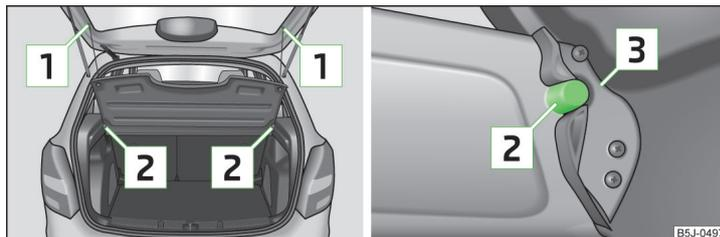

Fig. 64 Removing the boot cover
- Unhook support straps **1** » Fig. 64.
- Place the recesses of the cover **3** » Fig. 64 over the holders **2** in the side trim panel.
- The recesses in the cover **[3]** » Fig. 64 must lock in the holders in the side trim panel **[2]**.